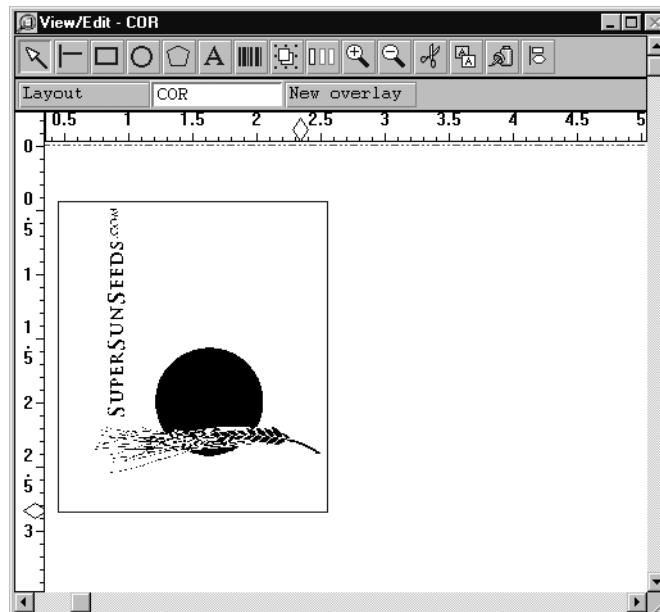

Figure 31. Portrait image on a landscape overlay
2. The image may be placed off the top of the page boundary, but you should be able to see the blue outline box in the top left corner of the View/Edit window. Use the mouse to drag the blue box to an area where it is more visible. The image appears to be rotated. Figure 31 shows an example of a portrait image when it is initially placed on an overlay that is set up with Orientation 90.